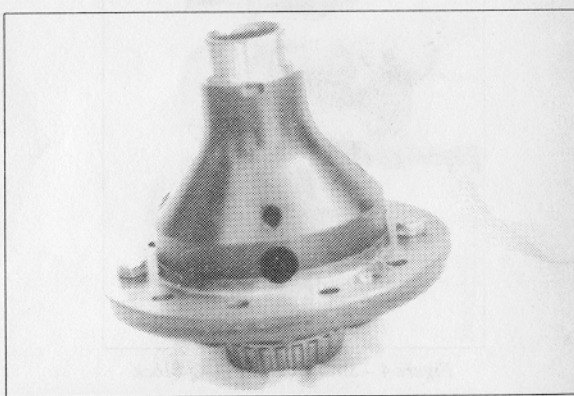

Figure 5 – Holding Case Halves Together
4. Use two (2) 7/16 inch bolts and nuts to hold the two case halves together before removing the torx head screws. See Fig. 5